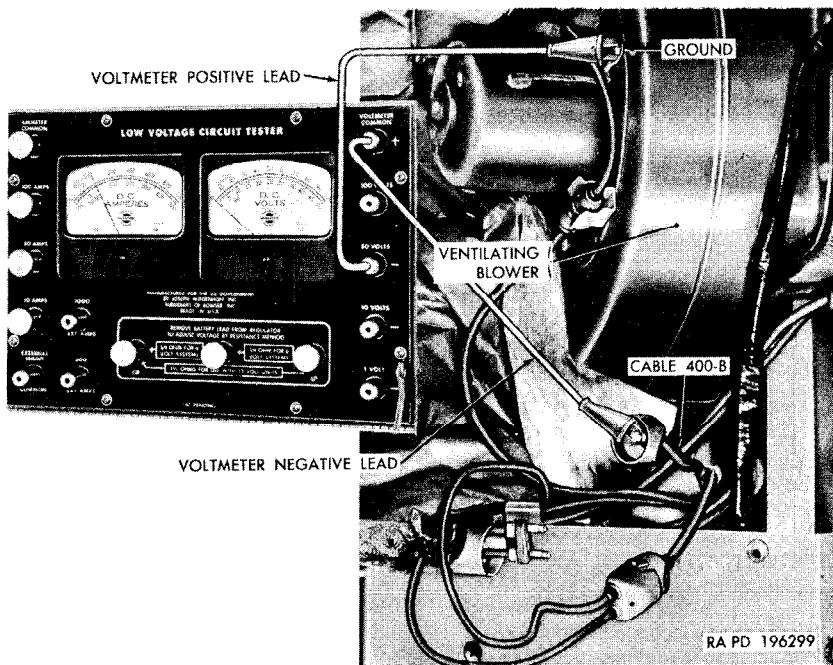

Figure 66. Checking for current at heater cable.
- (c) If the voltmeter stays at zero and current is not flowing through the circuit breaker, proceed with (3) below. If current is flowing through the circuit breaker, proceed with (4) below.
- (3) *Check for current to circuit breaker.*
- (a) Remove cable (11) from the heater circuit breaker.
- (b) Refer to paragraph 94b(3) for method of checking for current to the circuit breaker.
- (4) *Check for current to heater control cable* (fig. 66). If current flows through the heater circuit breaker, but does not reach the heater, proceed as outlined in (a) through (e) below.
- (5) *Check heater control.* If current to the heater is indicated by (1) above, or if it is established by corrective measures prescribed in (2), (3), and (4) above, and the heater will not start, the heater control is faulty. Notify ordnance maintenance personnel.
- (6) *Heater faulty.* If the heater will not start after (1) through (5) above have been performed, replace heater (par. 273a and b).
- (7) *Remove testing equipment.* When the checks have been completed, remove the testing equipment, connect all cables, and install the blower inspection cover, the instrument cluster, and the heater guard.